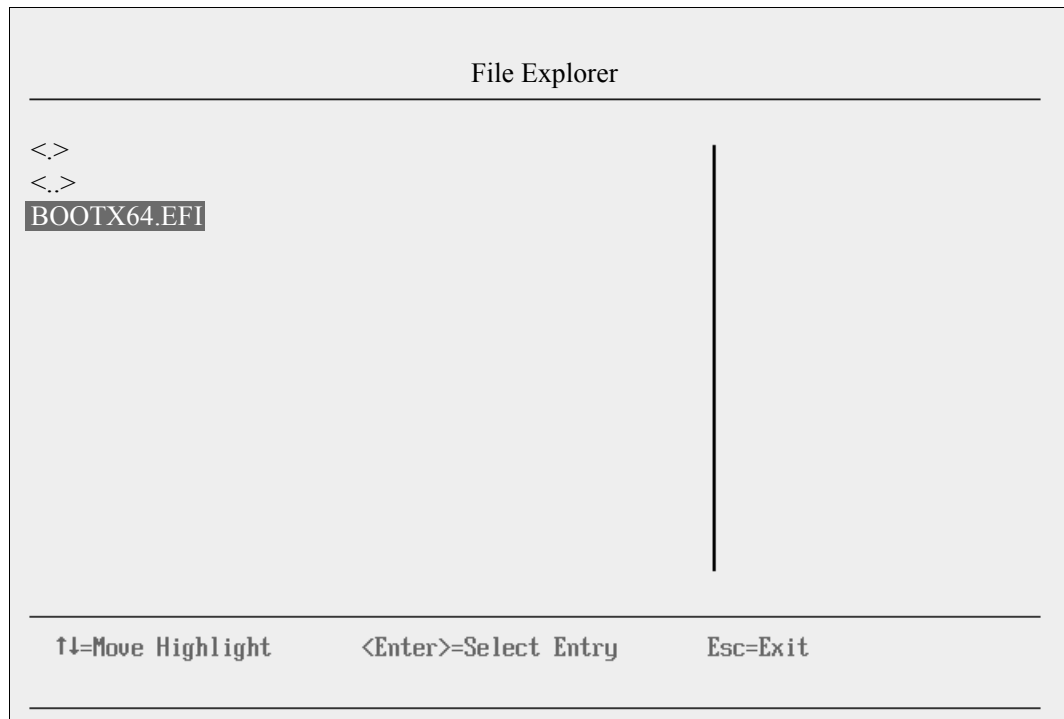

Figure 9-35 Selecting the BOOTX64.EFI file
- Now that you are browsing the DVD, select **EFI**, select **BOOT**, and then select **BOOTX64.EFI** (Figure 9-35). This file name might be different if you are booting other versions of Windows, VMware, or Linux.